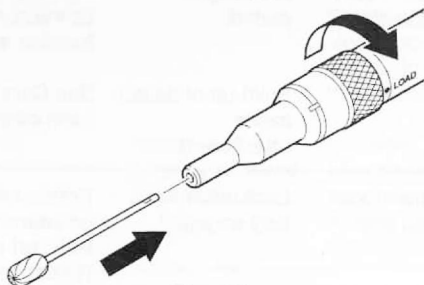

Figure 2.
4. Insert the cutting accessory into the attachment with a twisting motion until it bottoms (figure 2).